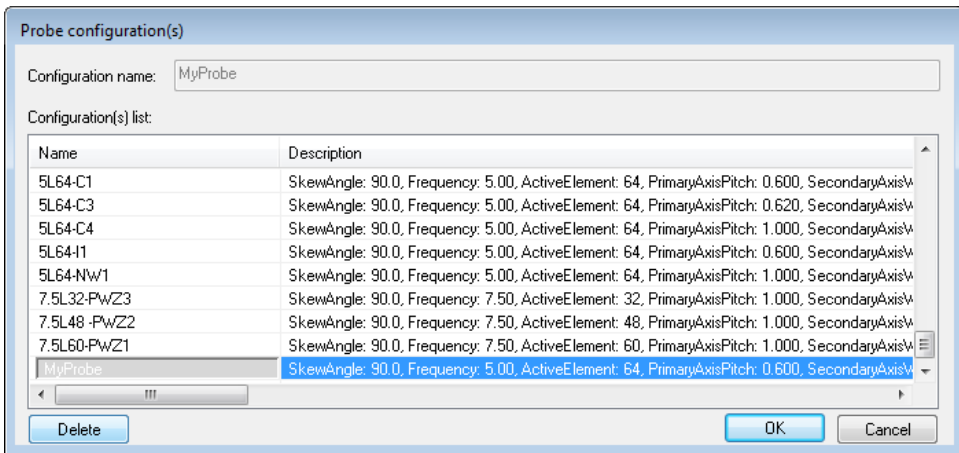

Figure 10-3 Deleting with the Probe Configuration dialog box
3. Click **OK** to close the dialog box (see Figure 10-3 on page 136).